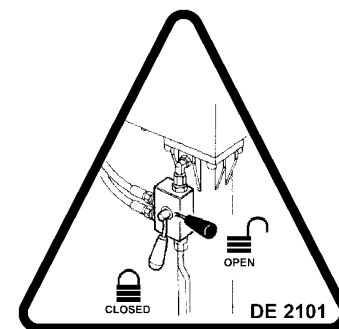

fig. 21
- When all manoeuvres are complete, check that the taps of the outrigger ram valves are closed. Fig. 21